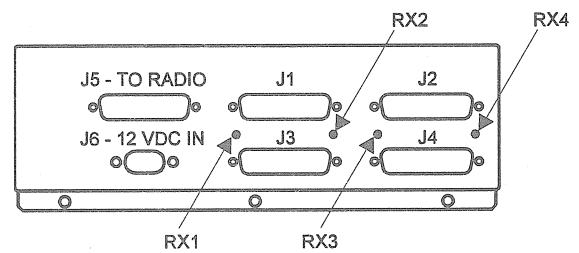

Figure 4. Location of Potentiometer Adjustment Holes and Connectors
Step 1. Lead the cables of the external devices (up to four devices) to the rear panel of the CDT and connect them to connectors J1-J4 (refer to Figure 4).
The accessory connectors (J1-J4), located on the front panel of the junction box (see Figure 4), are used to connect up to four external devices (e.g. modem, linear amplifier, phone patch). See Table 1 for connector pin assignments.